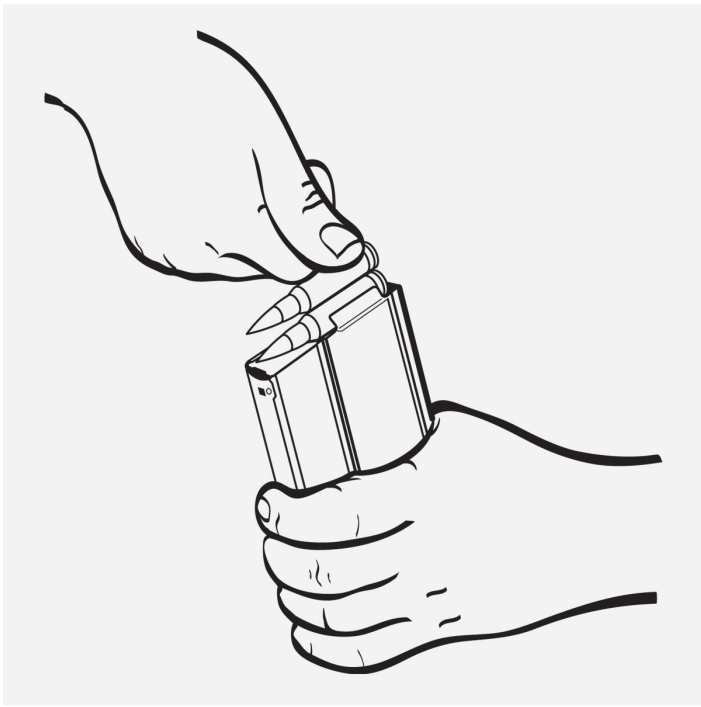

Fig 3
1. Load the magazine by inserting the cartridges one at a time into the magazine [see figure 3]. Place the firearm on safety and point it in a safe direction.